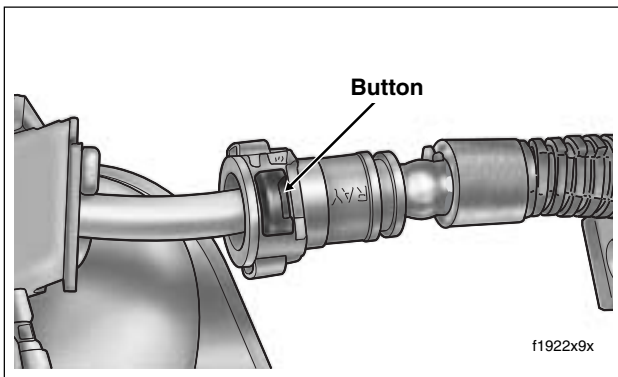

Figure 9-27. Remove Fuel Supply Line From Supply Tube
5. Depress button on inboard side of fuel supply line and remove from supply tube. See Figure 9-27.
1. Slide fuel supply line onto tube at top of induction module. A slight tug will verify that the line is locked in place. See Figure 9-27.
2. Depress button on inboard side of fuel supply line and remove from fuel supply tube. See Figure 9-27.